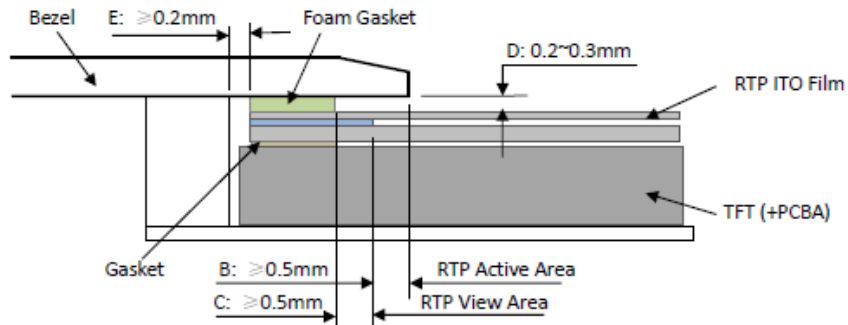

Figure 4
- It should bezel touching the RTP Active Area (A.A.) to prevent abnormal touch.It should left gab  $D=0.2\sim 0.3\text{mm}$  in between. (Figure 4)
- Outer bezel design should take care about the area outside the A.A. Those areas contain circuit wires which is having different thickness. Touching those areas could de-form the ITO film. As a result bezel the ITO film be damaged and shorten its lifetime. It is suggested to protect those areas with gasket (between the bezel and RTP).The suggested figures are  $B\geq 0.50\text{mm}$ ;  $C\geq 0.50\text{mm}$ . (Figure 4)
- The bezel side wall should keep space  $E=0.2\sim 0.3\text{mm}$  from the RTP. (Figure 4)
- 为避免面框直接压在动作区(A. A.)上造成误动作, 面框与电阻触摸屏(RTP)之间应留有一定的空隙 $D=0.2\sim 0.3\text{mm}$ 之间. (附图4)
- 设计面框时, 要注意用面框保护触摸屏四周的非保证操作区域, 因为布线区域在此处形成一台阶, 在此区域附近操作时ITO Film变形较大, 容易导致ITO损坏而降低寿命. 为保护RTP和避免误操作, 在RTP与面框之间垫缓冲物(Gasket), 我们建议设计面框应覆盖动作区的边缘, 面框边缘到V. A. 区的距离 $B\geq 0.50\text{mm}$ ; 垫圈内边缘到V. A. 区的距离 $C\geq 0.50\text{mm}$ . (附图4)
- 在设计面框与RTP组装时, 应考虑到面框内侧与RTP外侧的间距 $E\geq 0.2\text{mm}$ . (附图4)